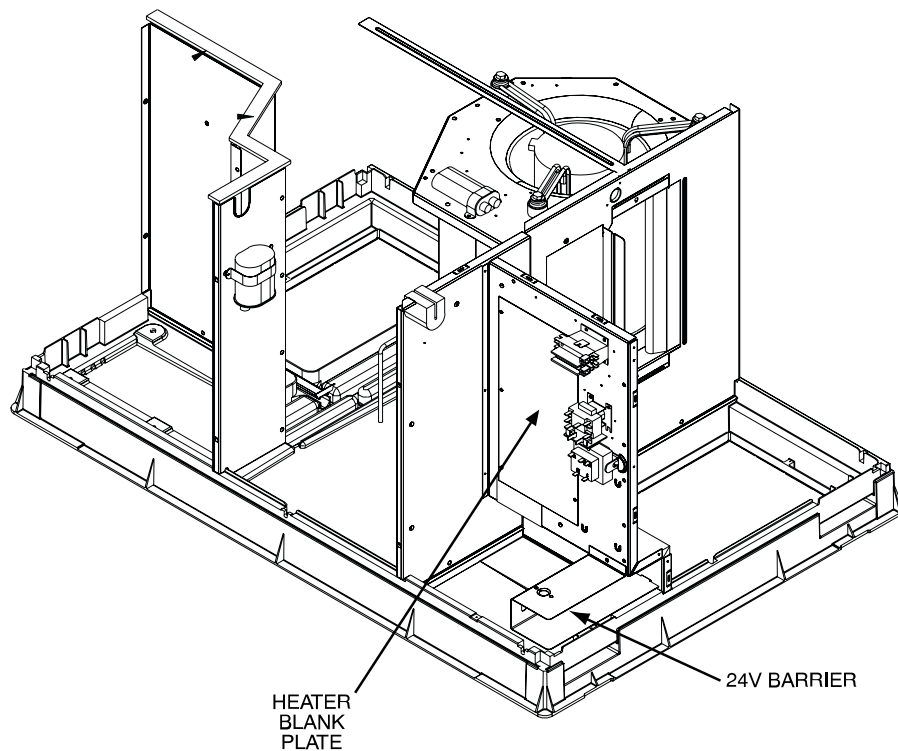

Fig. 3 – Heater Blank Plate Location
5. Locate and remove the heater access cover plate inside unit access panel (See Fig. 3). Save screws.
3. Connect low voltage wires as shown in unit schematic diagrams found on the base unit installation instructions. These connections must be made in the 24v barrier section inside the unit panel (See Fig. 3).